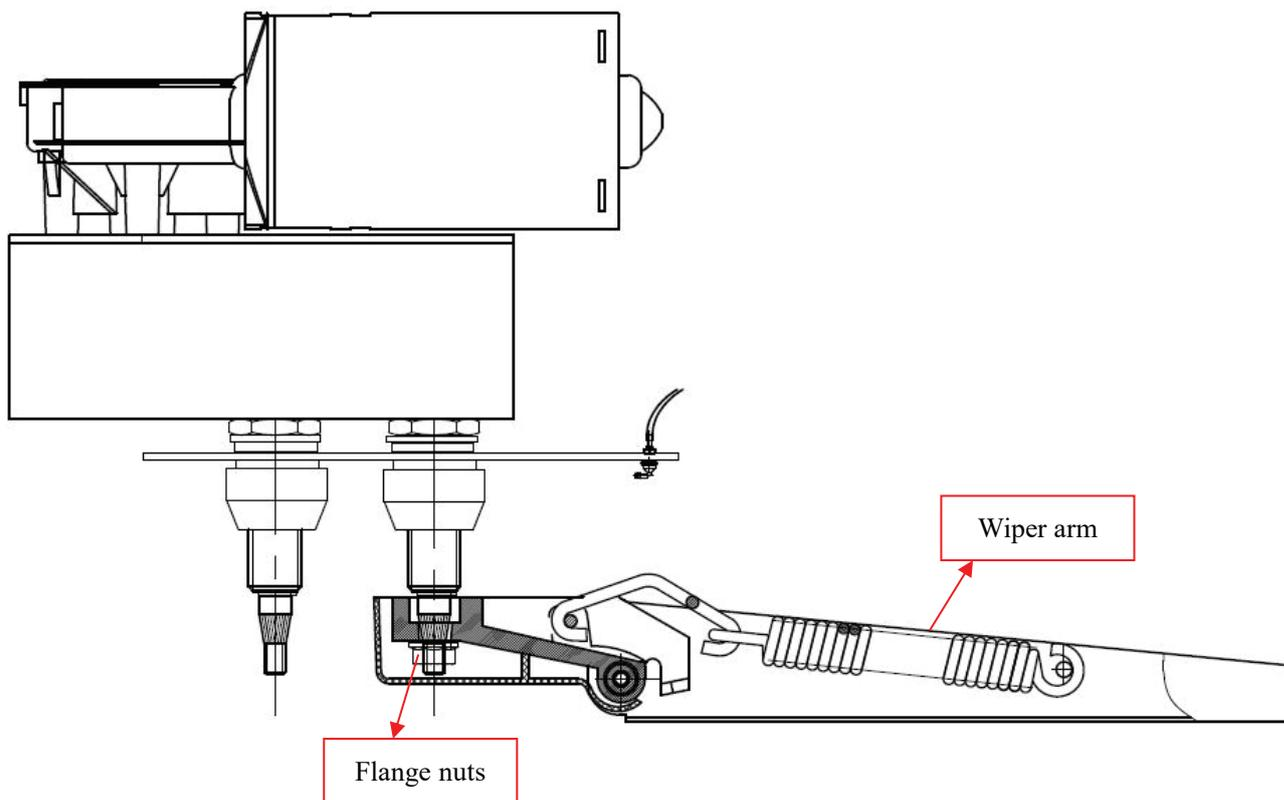

Figure 4
4.3 Install the wiper and lock it with flange nut and lock washer as shown in the figure 4. The nut locking force is 26-28n.M (as shown in Figures 4)